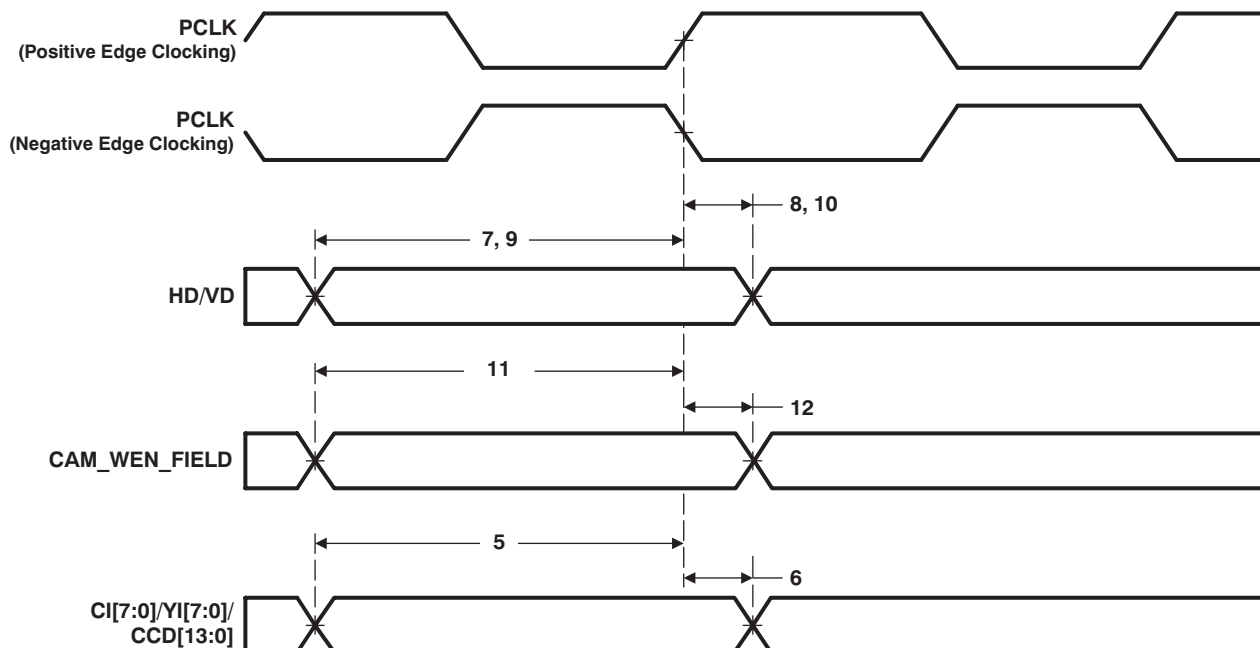

Figure 5-24. VPFE (CCD) Slave Mode Input Data Timing
**Table 5-18. Timing Requirements for VPFE (CCD) Slave Mode (see Figure 5-24)**